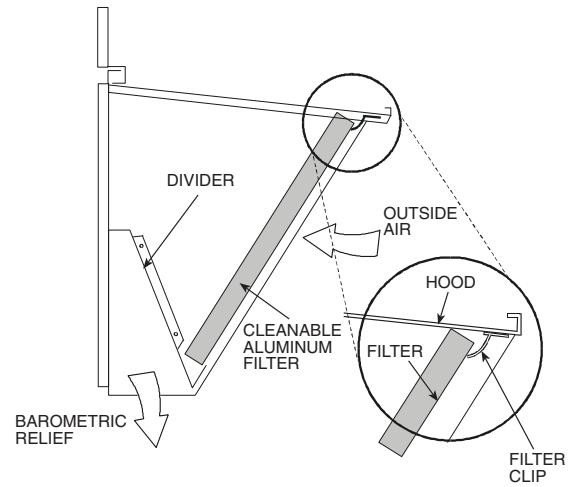

Fig. 13 — Economizer Filter Installation
- The indoor coil access panel will be used as the top of the hood. If the panel is still attached to the unit, remove the screws along the sides and bottom of the panel. See Fig. 13.
- Insert the hood divider between the hood sides. See Fig. 13 and 14. Secure hood divider with 3 screws on each hood side. The hood divider is also used as the bottom filter rack for the aluminum filter.
- Open the filter clips which are located underneath the hood top. Insert the aluminum filters into the bottom filter rack (hood divider). Push the filter into position past the open filter clips. Close the filter clips to lock the filters into place. See Fig. 13.